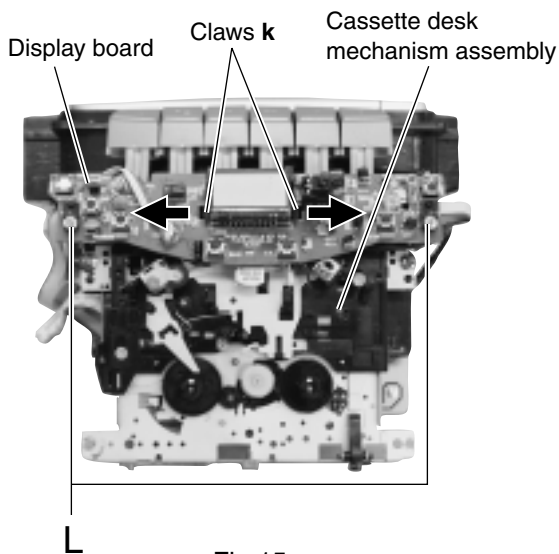

Fig.15
4. Remove the two screws **L** retaining the display board. (See Fig.15.)
5. Press the claws **k** in the direction of the arrow, remove the display board. (See Fig.15.)